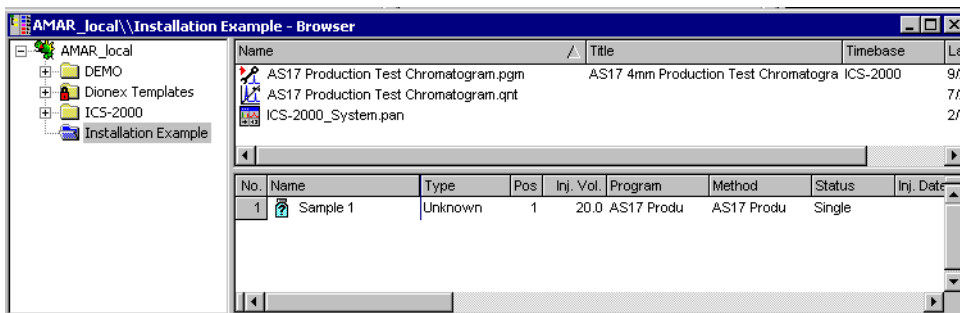

Figure 55. Example Browser with Open Sequence
18. Click **Next>** and then click **Done** on the last page of the Sequence Wizard. The Browser appears, displaying the sequence you created (see Figure 55). Notice the three files in the top pane of the Browser window.